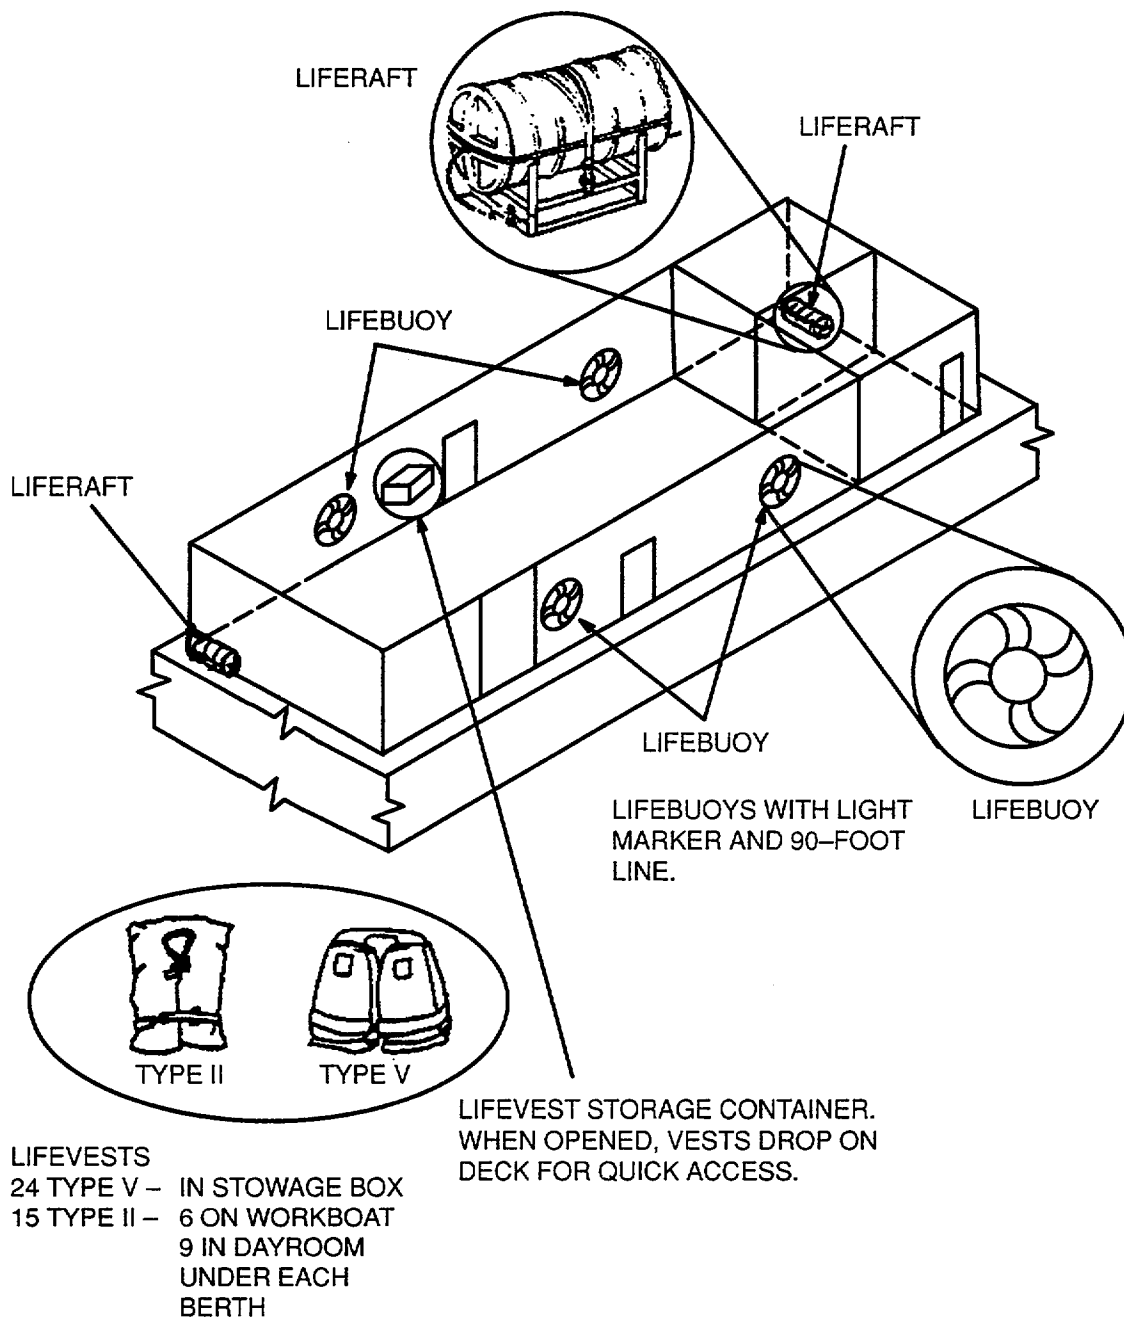

Figure 3-1. Location of Lifesaving Equipment
**3-1 Description.** Lifesaving equipment, shown in Figure 3-1, consists of 2 liferafts, 15 type II, and 24 type V lifevests and 4 lifesaving ring buoys. This equipment, as installed onboard, is shown on drawings listed in Appendix A.